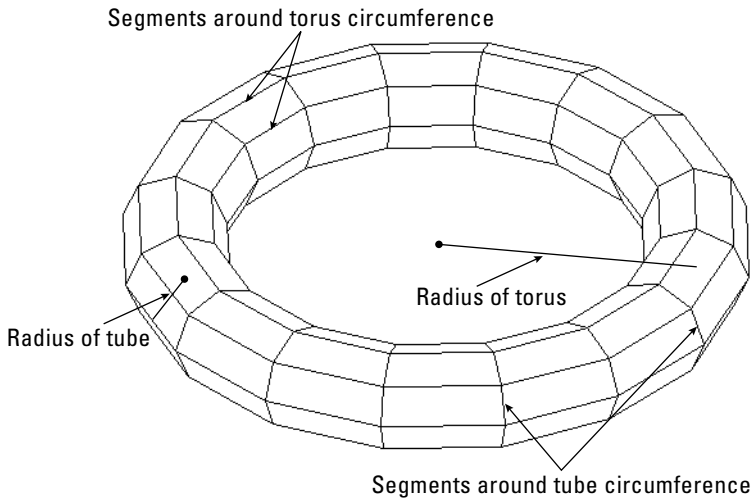

Figure 23-20: A torus.
A *torus* is a 3D donut, as shown in Figure 23-20.
3. At the `Specify radius of torus or [Diameter]:` prompt, specify the radius of the torus, as shown in Figure 23-20 or use the `Diameter` option to define the diameter.
4. At the `Specify radius of tube or [Diameter]:` prompt, specify the radius of the tube, as shown in Figure 23-20, or use the `Diameter` option to define the diameter.
5. At the `Enter number of segments around tube circumference <16>:` prompt, specify the number of segments around the tube, as shown in Figure 23-20.
6. At the `Enter number of segments around torus circumference <16>:` prompt, specify the number of segments around the torus, as shown in Figure 23-20.